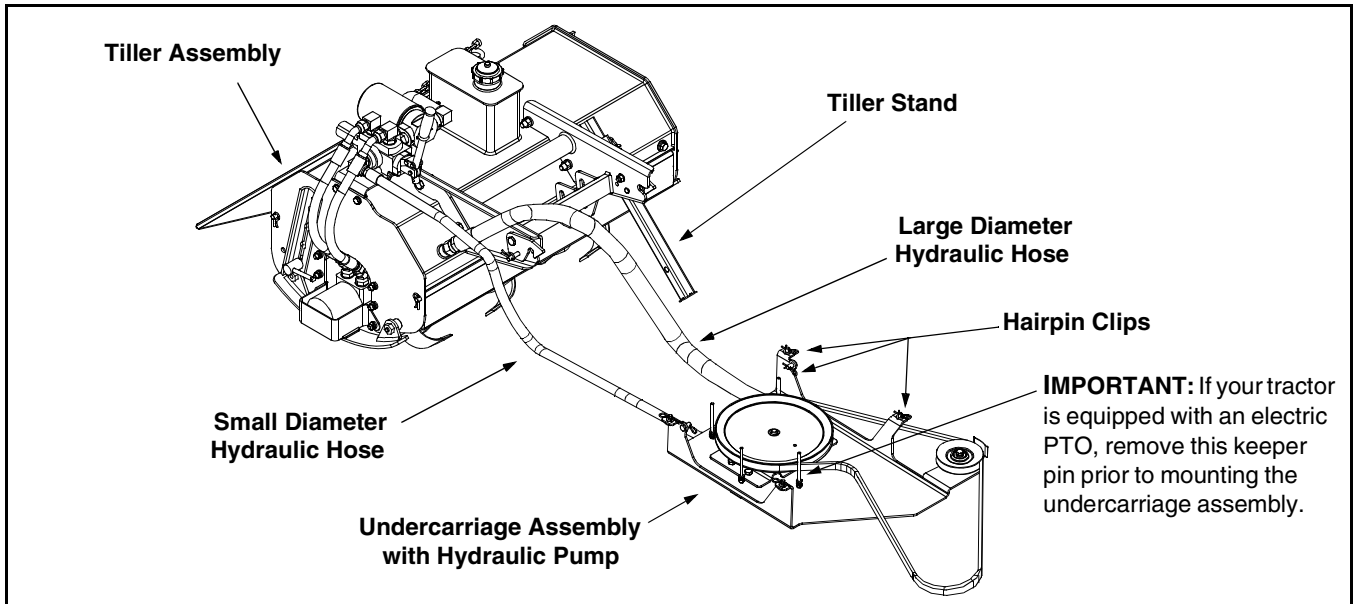

Figure 5
- With the tiller stand lowered to support the weight of the tiller assembly, position the undercarriage assembly and tiller assembly (with the hoses attached) as shown in Figure 5 on a cleared, flat surface.
- If your tractor is equipped with an electric PTO, remove the front, right keeper pin from the undercarriage assembly. See Figure 5.